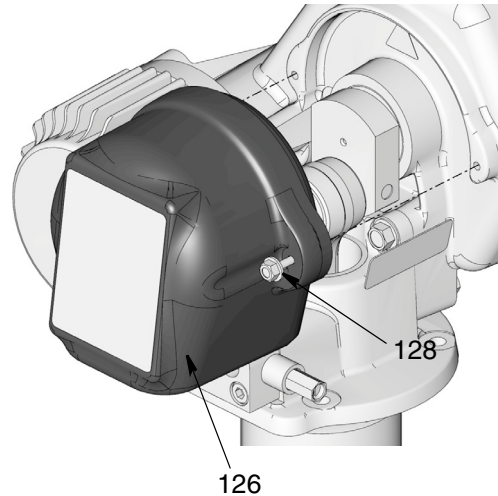

FIG. 17
5. Loosen bolts (128) and remove cover (126) from Dyna-Star pump (FIG. 17).